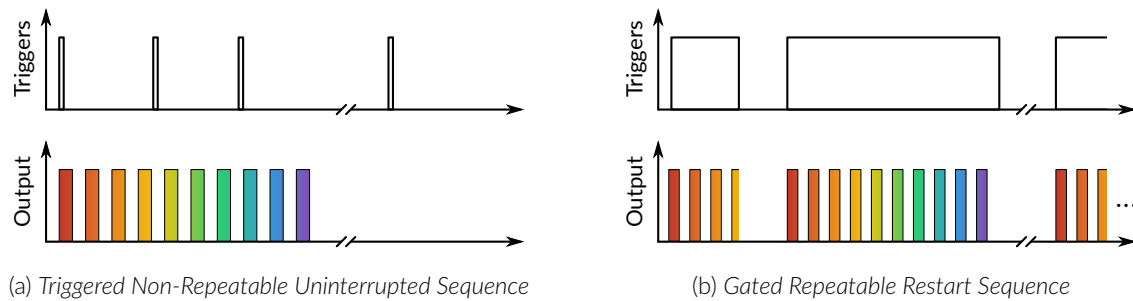

Figure 5.5: Sequence available for the eTFMB3 and eTOSFM3
5. The **Type** defines the type of trigger that is used to start/stop a sequence. The **Triggered** type can starts and stops a sequence at a rising edge while the **Gated** type can starts the sequence at a rising edge and stops it at a falling edge. A more refined interaction of the trigger with the defined sequence can be set up using the **Mode** field when it was available. Not all Trigger Type are available for each combination of Trigger Mode and Repeatability. The different combinations are shown in figure 5.5 and 5.6.